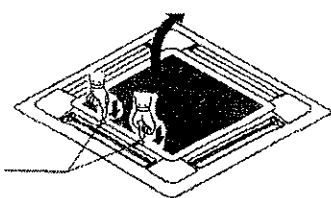

Fig.1
(1) Remove the suction grille from the decoration panel. Push the suction grille lever inward and lift up the lever side. (Refer to Fig.1)